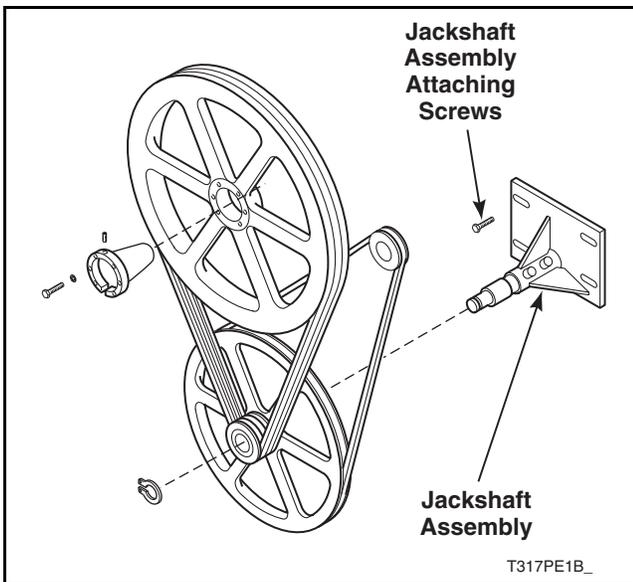

Figure 4
- c. Loosen the four jackshaft assembly attaching screws. Refer to *Figure 4*.